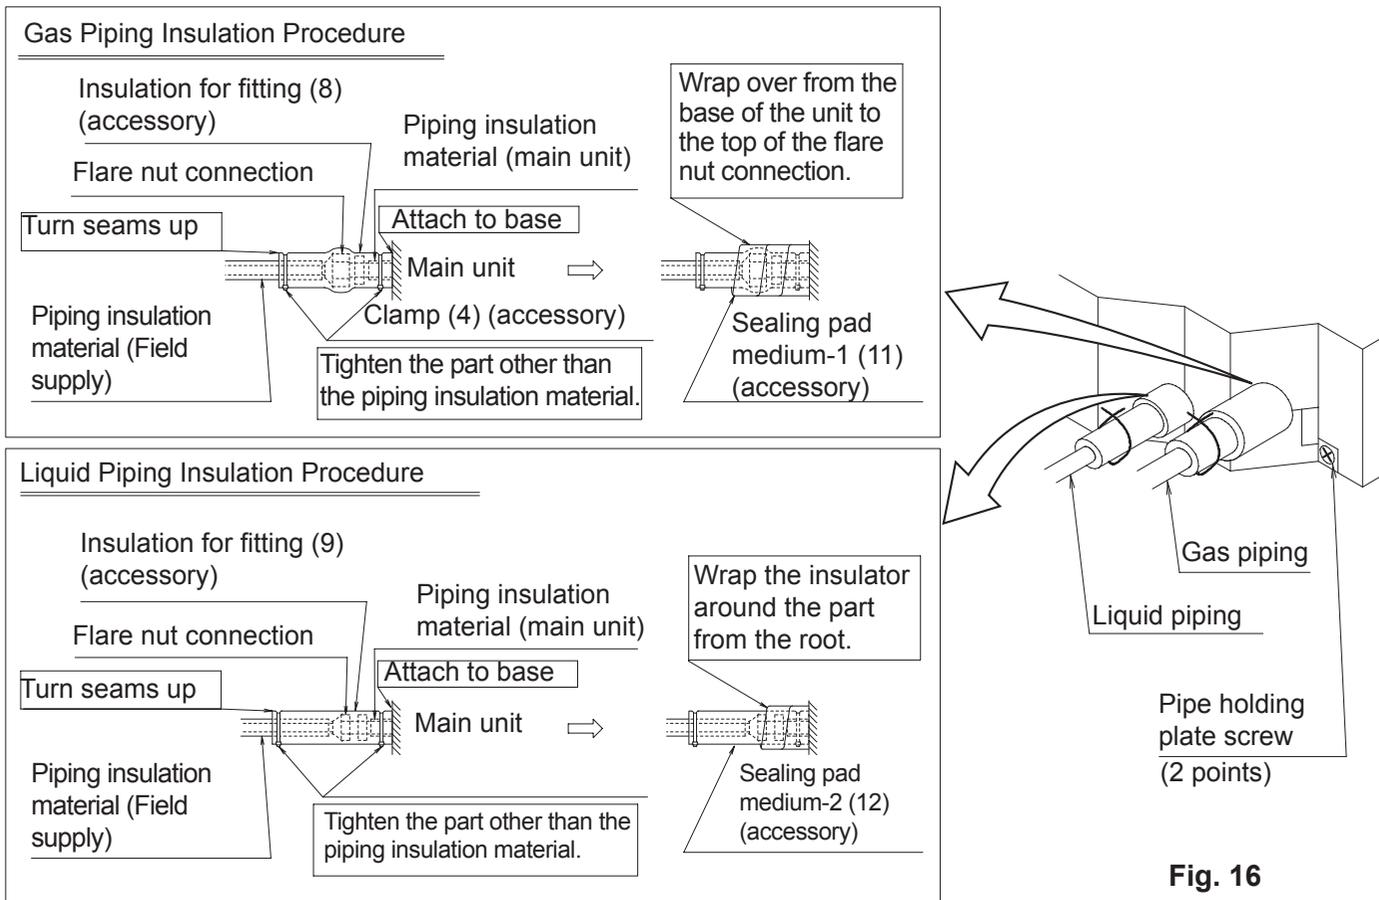

Fig. 16
- Make absolutely sure to execute heat insulation works on the pipe-connecting section after checking gas leakage by thoroughly studying the following figure and using the attached heat insulating materials for fitting (8) and (9). (Fasten both ends with the clamps (4).) **(Refer to Fig. 16)**
- Wrap the sealing pad (11) only around the insulation for the joints on the gas piping side. **(Refer to Fig. 16)**
- Always ensure that the joins on the insulating materials for fitting (8) and (9) are facing up.